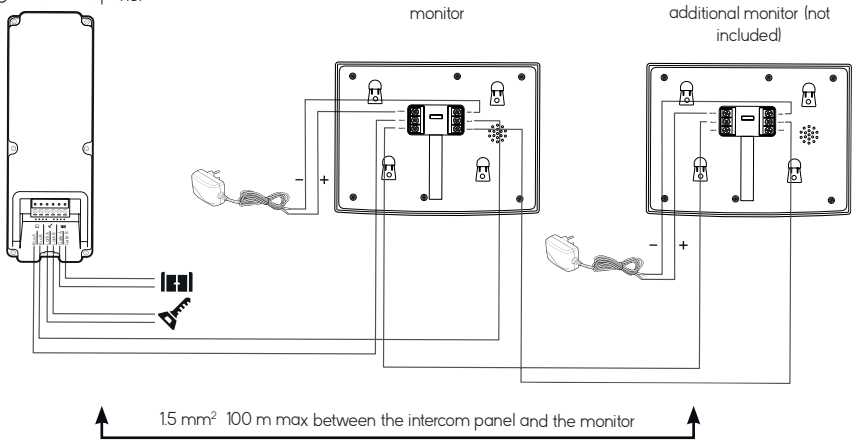

Fig. 9
- To ensure good audio and video quality, it is advised to not use more than 100 m of cable between the intercom and the intercom panel. The cable size to be used is shown in **Fig9**.